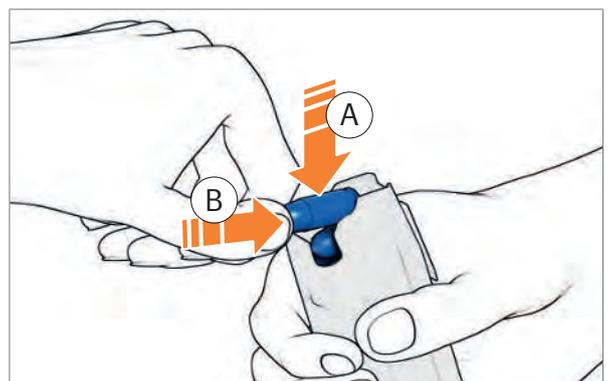

Fig. 45: Fill the magazine
2. Push cartridge under the magazine lips (*Fig. 45*).
3. Push cartridge to the rear as far as it will go (*Fig. 45*).